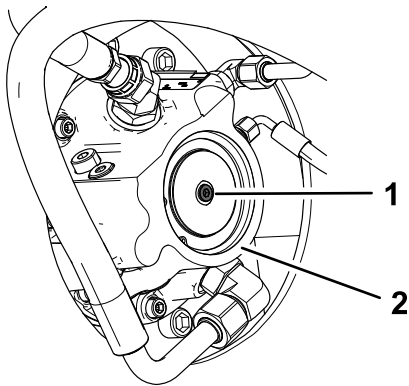

Figure 26
3. For each drive motor, remove the plug and install a screw (M8–1.25 x 40 mm) and washer (M8 x 16 mm) in its place (Figure 26). Hand-tighten the hardware.